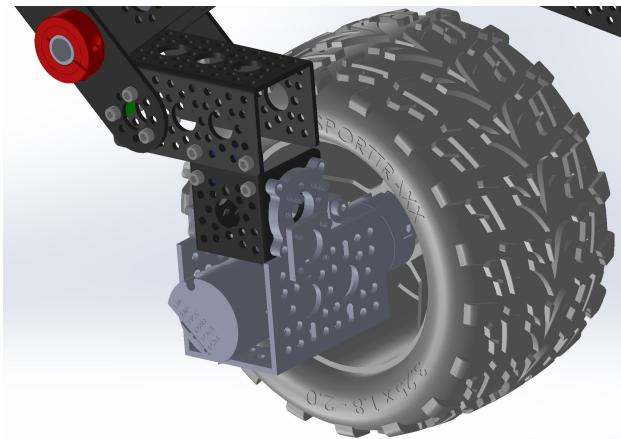

Figure 2: Mounting the middle wheel
1. **Mounting the Middle Wheel:** Mount one base wheel (not the corner wheels) to the lowest arm of each of the two rocker bogie subassemblies using a 1.5 inch channel **S1** and channel connectors **S6**. See Figures 2 and 3. Note that you should mirror the wheels so that they are both on the "outside" of the rocker bogey subassemblies.